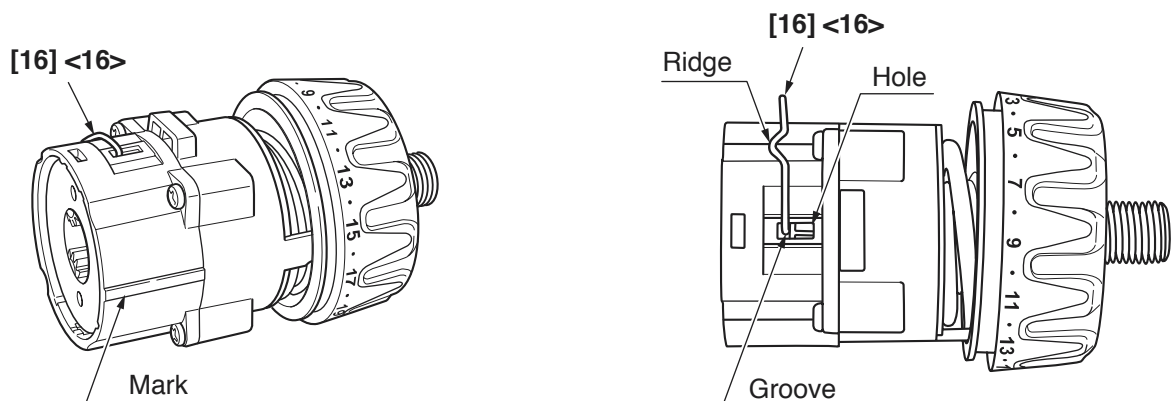

Fig. 12
- (ii) Install the Front Case [9] <9> and the Rear Case [14] <14> together with the mark on the Front Case [9] <9> aligned with the mark on the Rear Case [14] <14>. (See Fig. 12.)
With the ridge at the Shift Arm [16] <16> facing the Motor [25] <25> side, first install them on the unmarked side of the assembly reassembled in step (b). Then insert the projections on the Shift Arm [16] <16> into the holes in the Rear Case [14] <14> and make sure that the projections are fitted into the grooves in the Slide Ring Gear [17] <17> mounted within the Rear Case [14] <14>. (See Fig. 12.)